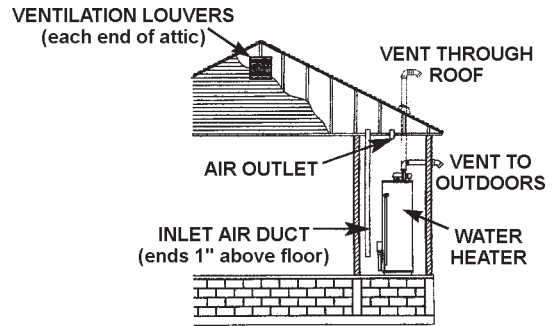

FIGURE 14.
2. When communicating with the outdoors through vertical ducts, each opening shall have a minimum free area of 1 square inch per 4,000 Btu per hour (5.5 cm2/kW) of total input rating of all equipment in the enclosure, see Figure 14.